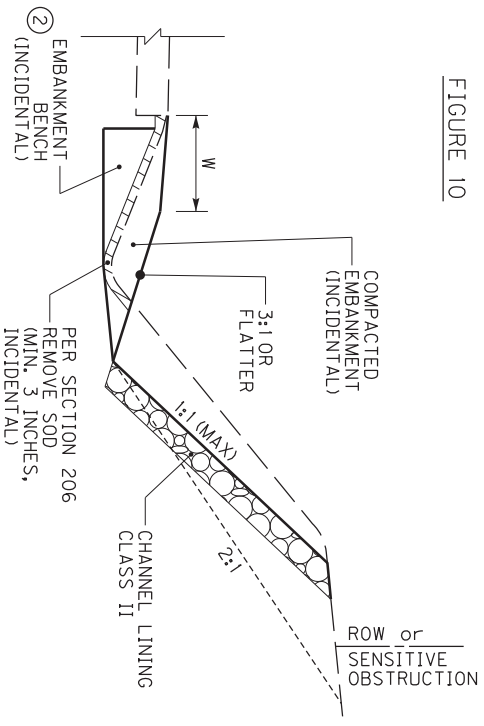

FIGURE 10
12. AS SHOWN IN FIGURE 10, IF INSTALLING A 2:1 DITCH BACKSLOPE WILL RESULT IN THE TOP OF CUT EXTENDING BEYOND THE RIGHT-OF-WAY OR STILL IMPACTING A SENSITIVE OBSTRUCTION, THEN THE DITCH BACK SLOPE MAY BE INSTALLED STEEPER THAN 2:1, UP TO 1:1 MAXIMUM. IN THIS SITUATION, THE DITCH BACKSLOPE SHALL HAVE CLASS II CHANNEL LINING INSTALLED FOR SLOPE PROTECTION.